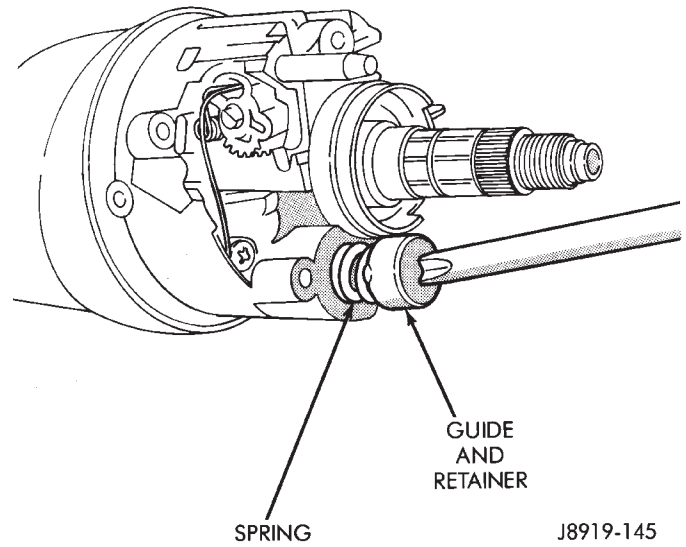

Fig. 9 Retainer/Guide/Spring Removal
(26) Press the tilt spring guide retainer inward. Turn it counterclockwise until the tabs disengage from the key/lock cylinder housing lugs. Ensure that the screwdriver blade properly fits the retainer slot. Remove the tilt spring guide retainer, the guide and the spring from the housing (Fig. 9).